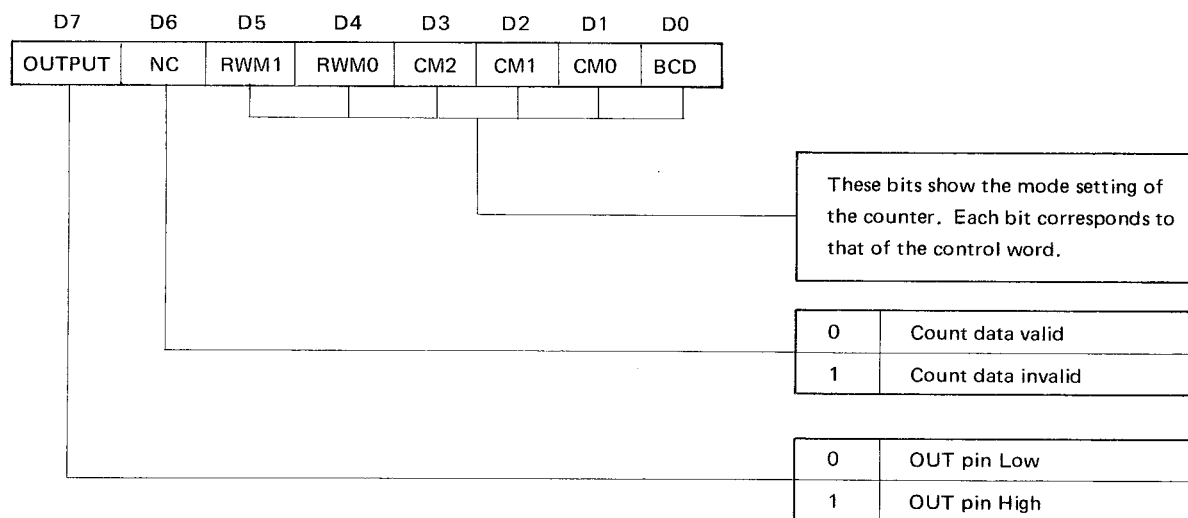

Fig. 4-5 Status Data
When the  $\overline{COUNT}$  bit [D5] is 0, the count data of the selected counters are latched in the count latches. When the  $\overline{STATUS}$  bit [D4] is 0, the status data (see Fig. 4-5) of the selected counters are latched in the status latches. Bits D5 to D0 of the status data show the mode status of the counter and the OUTPUT bit [D7] shows the state of the OUT pin of that counter. The Null Count (NC) Bit [D6] indicates whether or not the count data is valid. When the count is transferred from the count register to the down counter, this bit changes to 0 showing that the new data is valid (refer to Table 4-4).